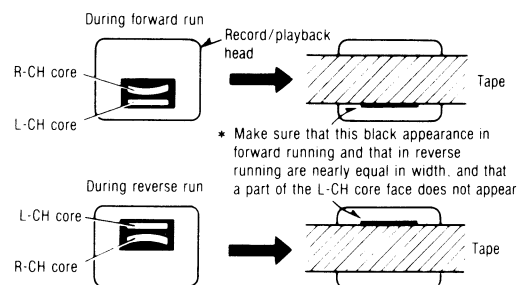

Fig. 4
- Install a test tape (tape with mirror: QZZCRD) on the recorder; place the recorder in the FORWARD PLAY mode. Make fine adjustments of the erase head height as necessary, to attain on the record/playback head face the tape position shown in fig. 4.
- Run the tape in the forward play mode and check it for zigzag running. (Shown in fig. 4)
- Repeat steps 5 and 6 two or three times and verify that the tape position shown in fig. 4 is ensured.